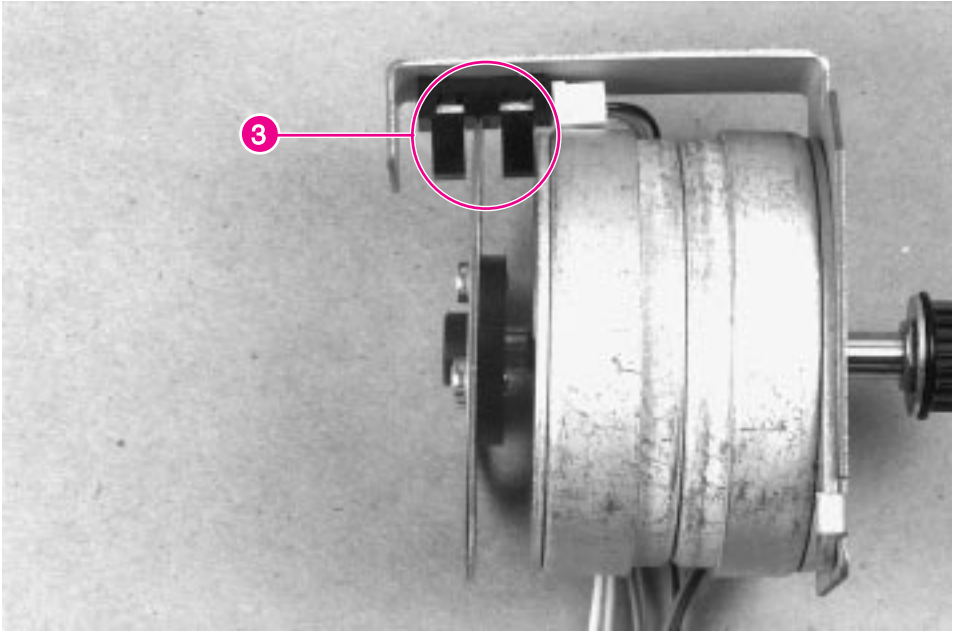

Figure 6-74 Mailbox with Stapler, Transport Belt Encoder
- 1 Make sure that the segmented disk at the back of the Transport Belt Motor is approximately centered in the Encoder Assembly photosensor (figure 6-74 on page 243, callout 3).